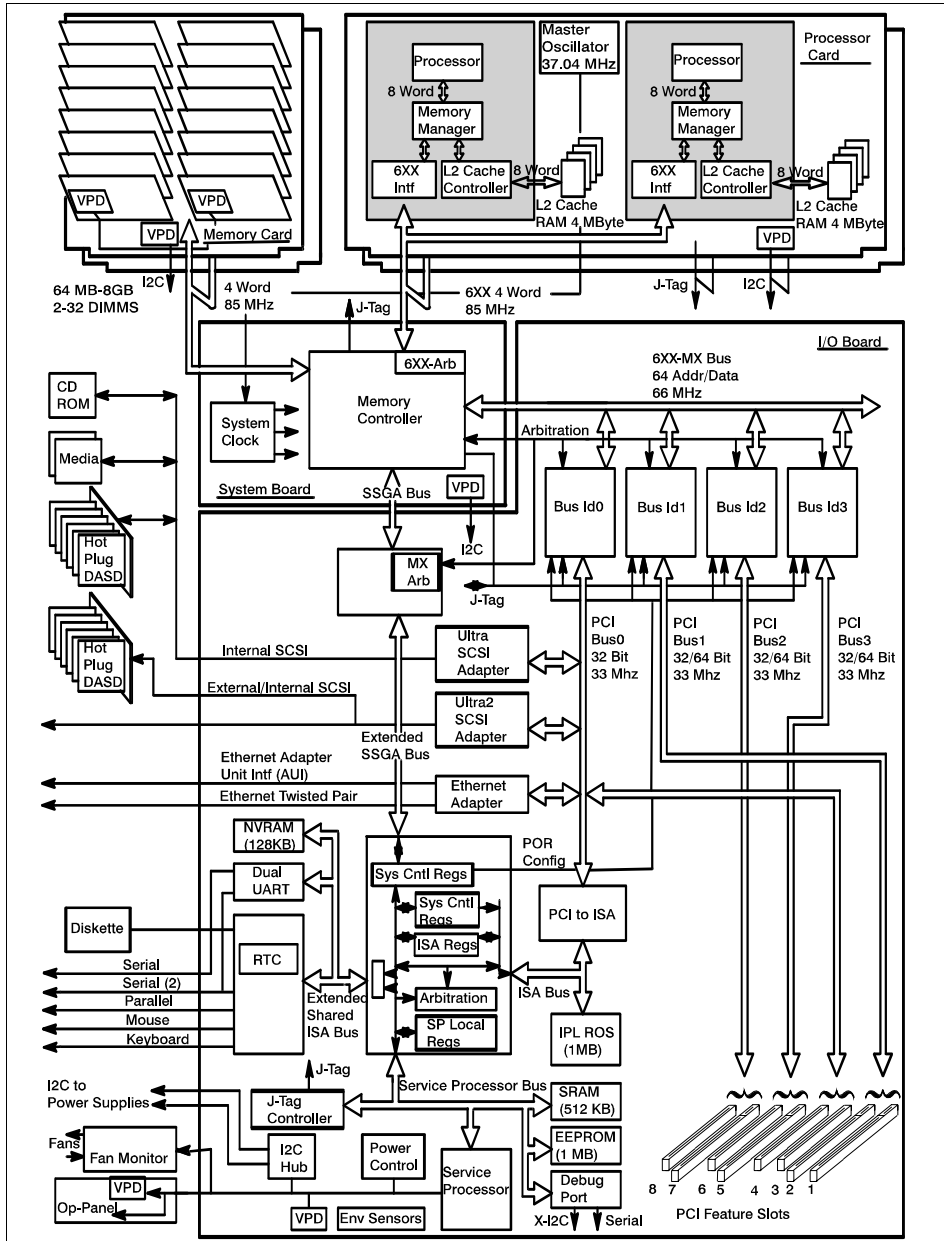
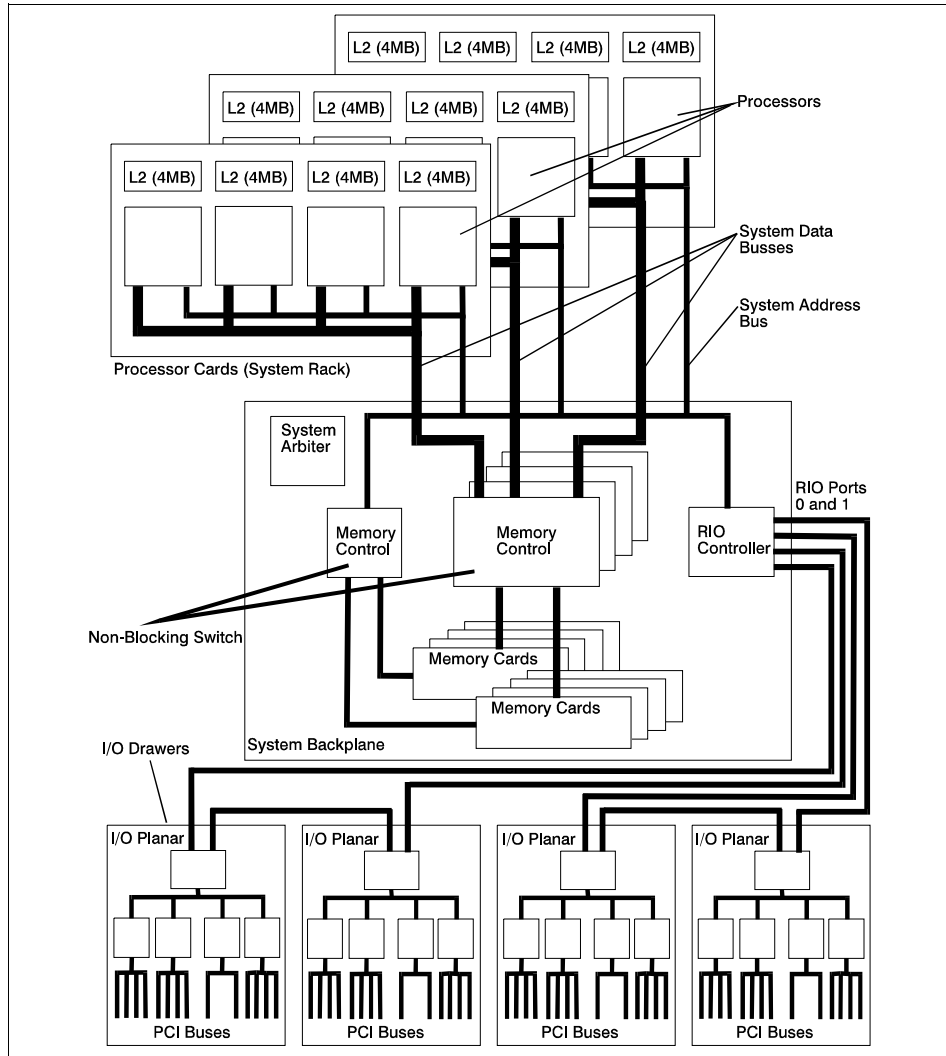

Figure 4. General RS/6000 System Block Diagram - Bus-Based Systems
Figure 5. Advanced RS/6000 System Block Diagram - Switch-Based Systems
Figure 4 on page 5 shows a general RS/6000 system block diagram for bus-based systems, such as the Model H70. Figure 5 on page 6 shows the advanced design of RS/6000 switch-based systems, such as the Model S70 Advanced.
- The design in Figure 4 shows a peer bus implementation, which allows all the PCI buses to have equal access to the memory controller.
Switch-based memory controllers can provide a peak aggregate throughput of 5.6 GB/s providing superior performance over bus-based systems when the number of processors and I/O connections increase. Figure 5 shows a switch-based design using multiple memory controllers.